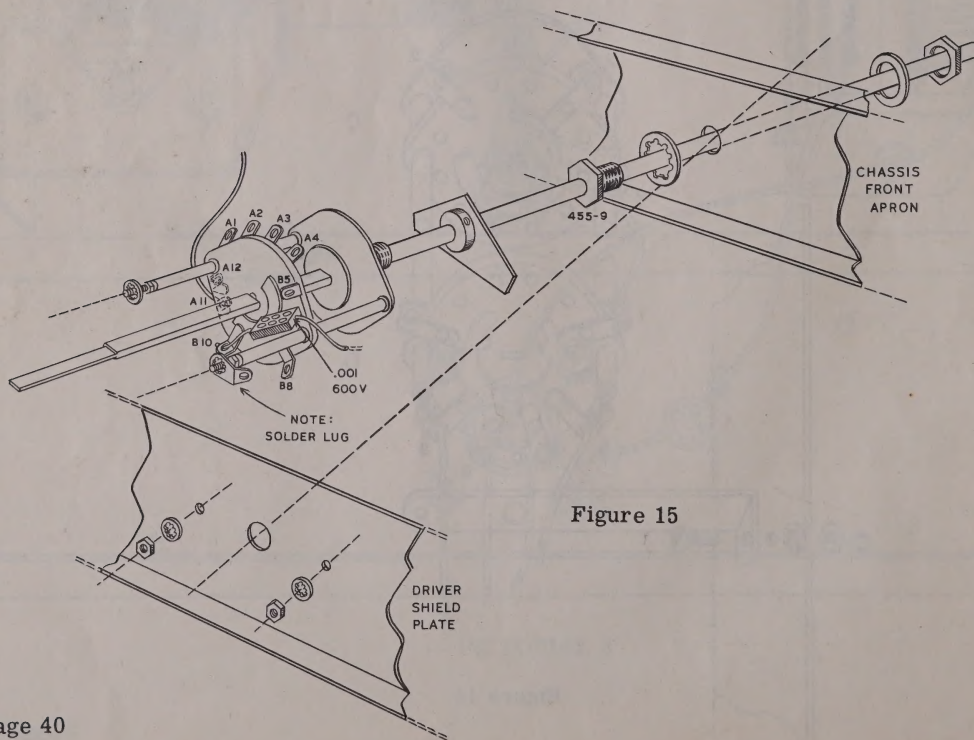

Figure 15
- (✓) Prepare the front section of the main bandswitch for mounting as follows: Rotate the switch shaft all the way clockwise as viewed from the front. Refer to Figure 15 on Page 40 to identify the terminal numbers on the switch. Remove the extra nuts from the switch mounting studs and lay them aside temporarily.
- (✓) Connect a heavy bare wire 2 5/8" long to switch terminal A11 (S). Form as shown and leave the other end free.
- (✓) Cut one lead of a .001 μ fd 600 volt mica capacitor to 5/8" and connect to terminal B10 (S). Leave the other end free. Position the capacitor as shown in Figure 15.
- (✓) Slide the hardware shown in Figure 15 onto the switch shaft and leave it loose.
- (✓) Now insert the switch shaft in the front chassis apron hole far enough that the rear shaft will drop into the hole in the driver shield plate. Carefully engage the rear switch rotors as the shaft is slipped down through the sections. The wafer of the front switch section should be oriented as in Figure 15.